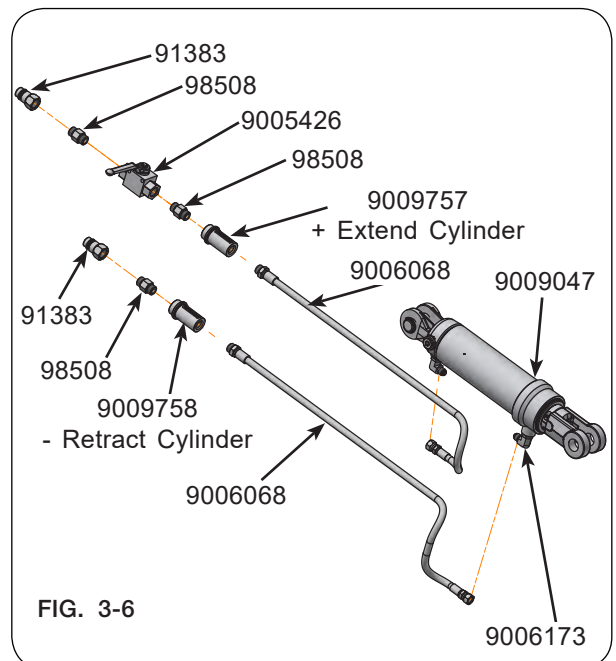

FIG. 3-6
- Failure to store the jack in storage position could result in damage to the jack, cart, or tractor tire. (FIG. 3-6)
Always close the manual valve for the hydraulic jack for in-field use and when unhitching from the tractor. (Fig. 3-6)